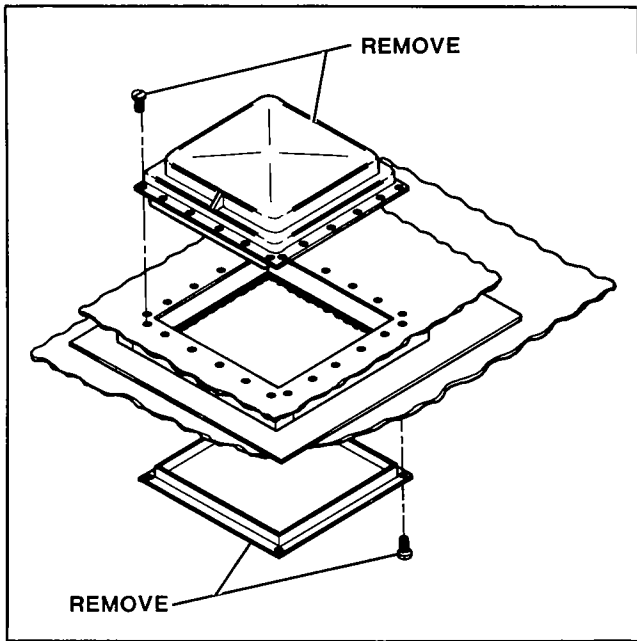

Figure 26. Vent Assembly
- Remove vent assembly (figure 26).